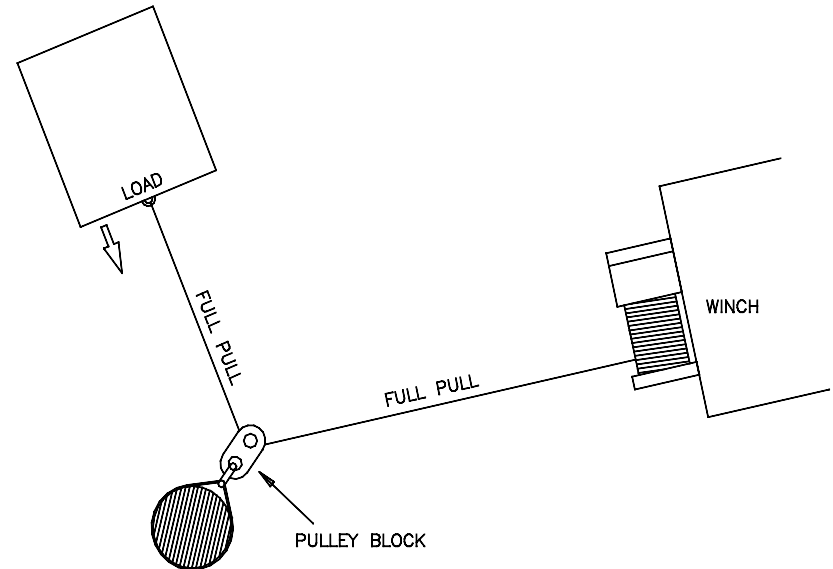

Fig. 13
5. Figure 13 illustrates the use of a pulley block to change the direction of the pull. Mechanical advantage can be obtained by attaching a pulley block to the nylon sling with a shackle and running the wire rope to the anchor.